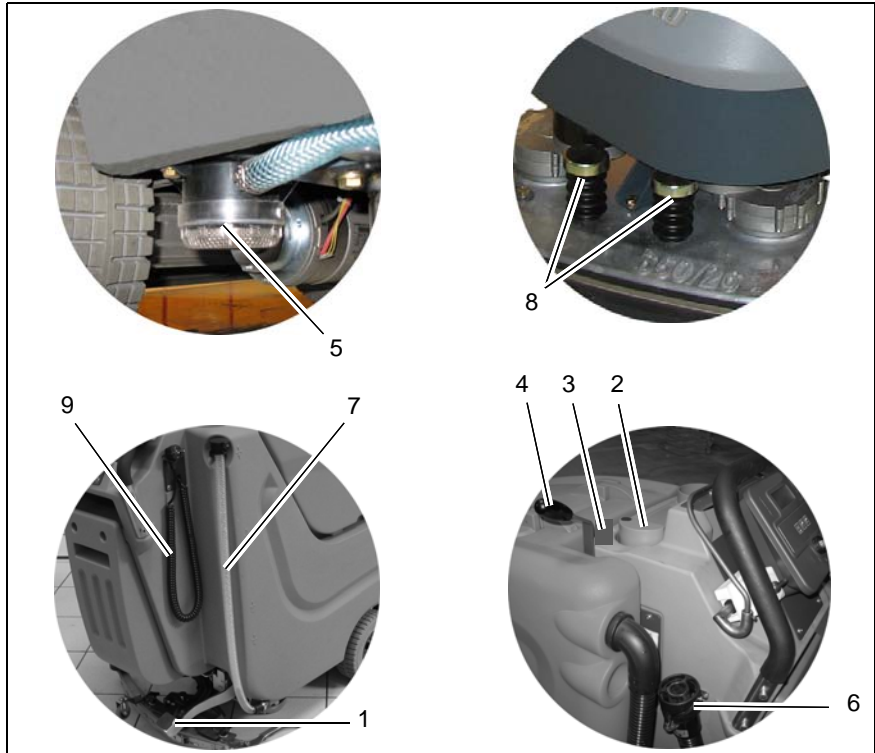

Fig.5
2. Use lever (Fig5/4) to lower squeegee. Vacuum motor switches on automatically.
3. Use solution control (Fig5/3) to set the desired flow rate.
4. Use pedal (Fig5/1) to lower brush deck. The solution supply switches on automatically.
Brush deck pedal (Fig. 5/1)
Opening of solution tank (Fig. 5/2)
Solution control (Fig. 5/3)
Squeegee lever (Fig. 5/4)
Solution tank filter (Fig. 5/5)
Recovery tank drain hose (Fig. 5/6)
Solution tank drain hose (Fig. 5/7)
Brush ejector (Fig. 5/8)
Power connection (Fig. 5/9)